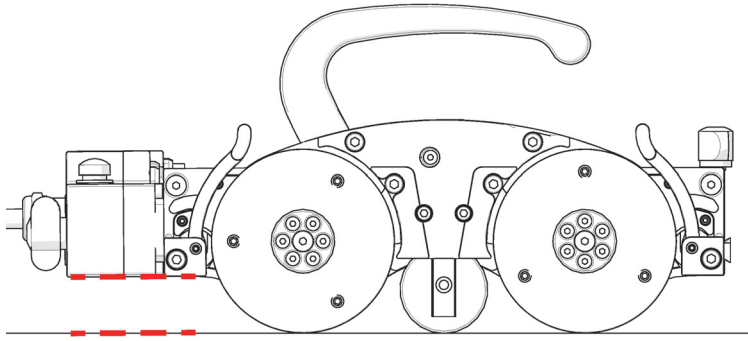
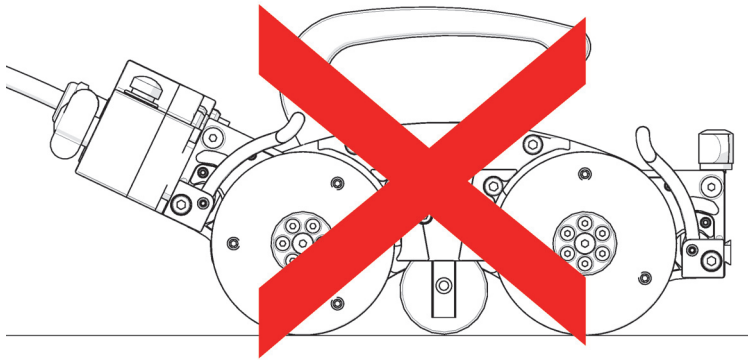

Figure 2-14 Correct umbilical mount alignment
Figure 2-15 Incorrect umbilical mount alignment
5. If you are scanning at heights greater than 2 m (6 ft), set the umbilical so that it is parallel to the scanning surface. Do not pivot the umbilical away from the inspection surface (see Figure 2-14 on page 59 and Figure 2-15 on page 59).